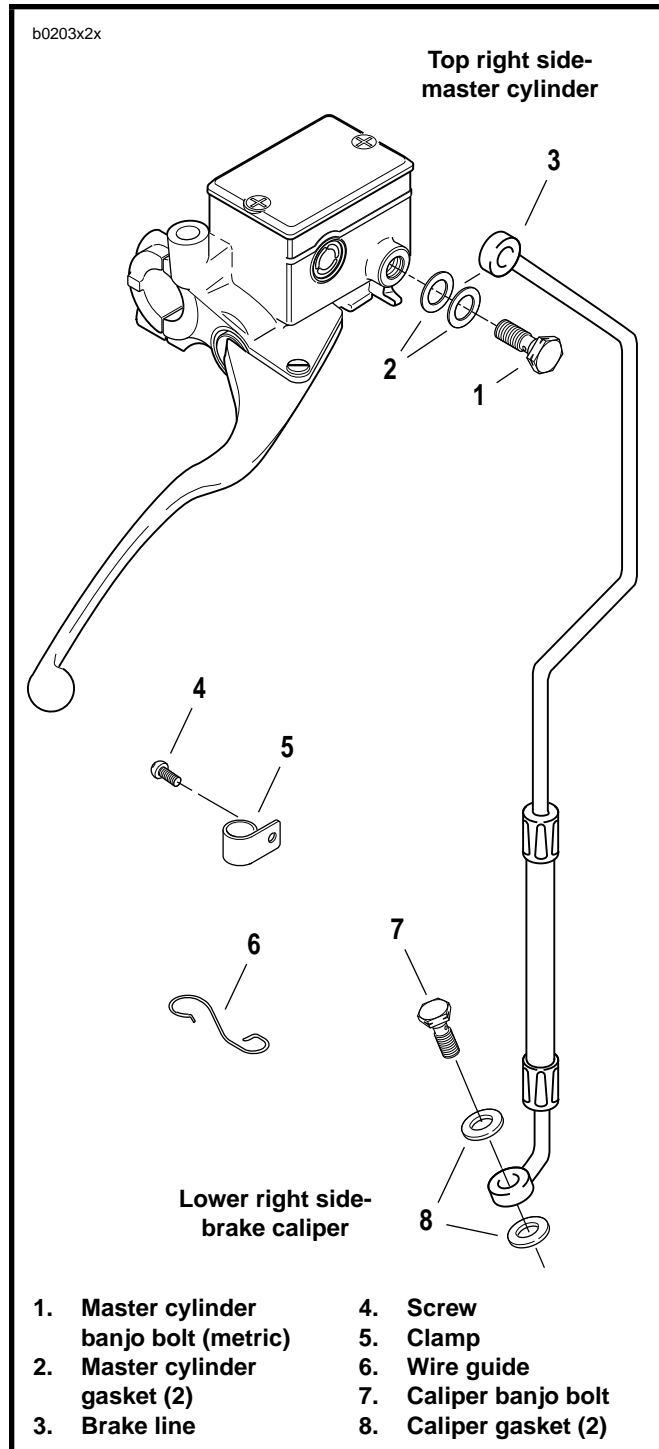

Figure 2-22. Front Brake Line
2. See Figure 2-22. Remove screw (4) to detach brake line clamp (5) from lower triple clamp (right side).
3. Slide brake line out of wire guide (6) on front fender.
4. Remove master cylinder banjo bolt (1) (metric) and two gaskets (2) to detach brake line from master cylinder body. Discard gaskets.
5. Remove caliper banjo bolt (7) and two gaskets (8) to detach brake line from front brake caliper. Discard gaskets.
1. See Figure 2-22. Position **new** master cylinder gaskets (2) on each side of the banjo fitting. Insert banjo bolt (1) (metric) through gaskets and banjo fitting. Loosely install bolt into master cylinder.
2. From the master cylinder, the brake line runs downward in front of the right handlebar, where it turns inboard at the upper triple clamp. Loosely install clamp (5), and screw (4) to attach front brake line to right side of lower triple clamp.
3. Place brake line inside wire guide (6) on front fender.
4. Position **new** gaskets (8) on each side of banjo fitting at free end of brake line. Insert caliper banjo bolt (7) through gaskets. Loosely install bolt into caliper.
5. Tighten clamp screw (4) on lower triple clamp to 30-35 **in-lbs** (3.4-4.0 Nm).
6. Tighten master cylinder banjo bolt (1) (metric) to 17-20 ft-lbs (23.0-27.1 Nm).
7. Tighten brake caliper banjo bolt (7) to 16-20 ft-lbs (21.7-27.1 Nm).